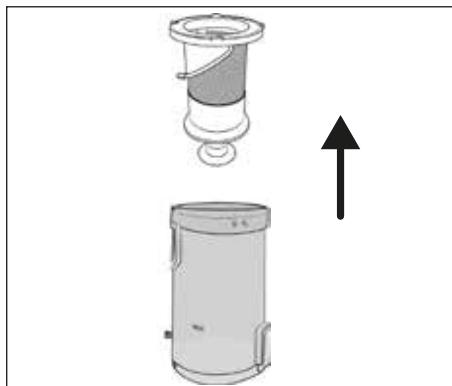

Fig. 19
- 4) Remove the stainless steel filter ⑥ from the dust container ⑦ by reaching into the opening of the stainless steel filter ⑥ and pulling it out of the dust container ⑦ (see Fig. 19).